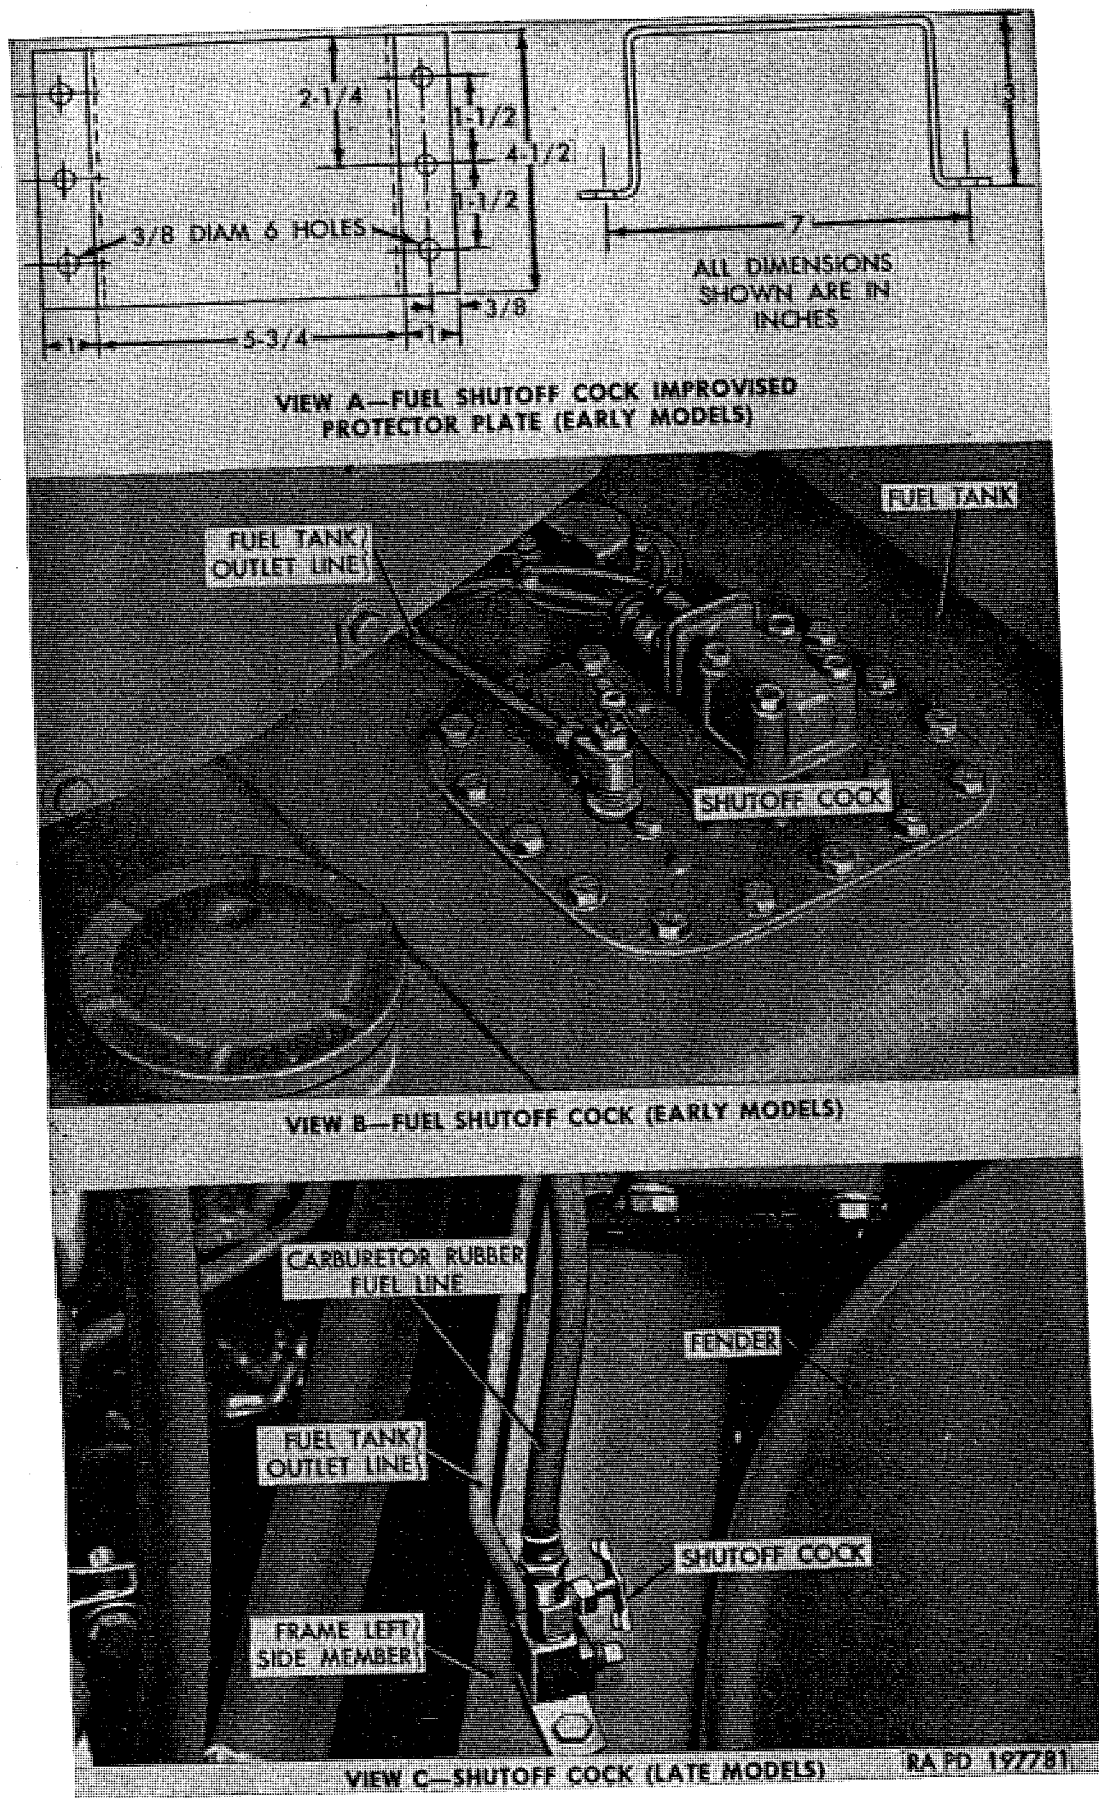

Figure 129. Fuel line shutoff cock locations and improvised protector plate.
- (1) *Description.* Fuel lines, shutoff cock, and connections are shown in figure 122. Fuel line of special metal having inverted flared-type fittings is used for making line connections. Line is clipped in position to prevent vibration and resultant chafing. A flexible line assembly is used between carburetor and fitting at frame left side member. A fuel shutoff cock is installed in fuel line to carburetor. Shutoff cock on early models is located at fuel tank outlet (view B, fig. 129). On late models, fuel shutoff cock is located in engine compartment, mounted in fuel line fitting at frame left side member (view C, fig. 129).
- (2) *Replacement.* Use line of same size and material as original line when making replacement. Install new line in same position and install line clips. When replacing elbows, shutoff cock, and tee connection, coat threads with plastic-type gasket cement before installation.
- (1) *Description.* An improvised protector plate (view A, fig. 129) can be fabricated to prevent damage and breakage to fuel shutoff cock on early models (view B, fig. 129). Damage and breakage occurs when operator, in mounting to
- (2) *Fabrication.* Using approximately 12-gage sheet metal, or suitable substitute, form plate and drill holes as specified in view A, figure 129.
- (3) *Installation.* Remove three cap screws and lockwashers from each side of fuel pump hanger flange. Install protector plate over shutoff cock to flange of fuel pump. Aline holes, then install six cap screws and lockwashers. Tighten cap screws firmly.